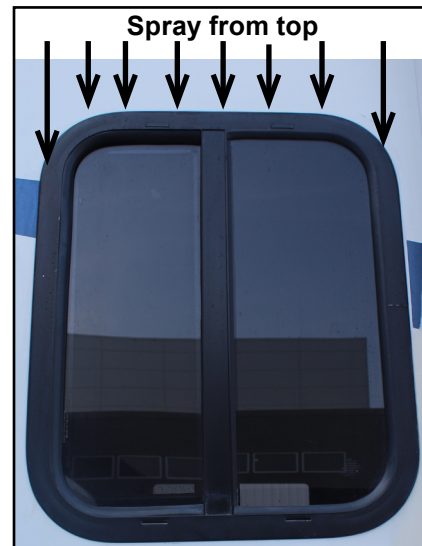

Fig.6
3. Stand 5 to 10 feet away and spray the window from above with a nozzle (Fig.5) set to gentle shower or rain so the water covers the entire window (Fig.6).